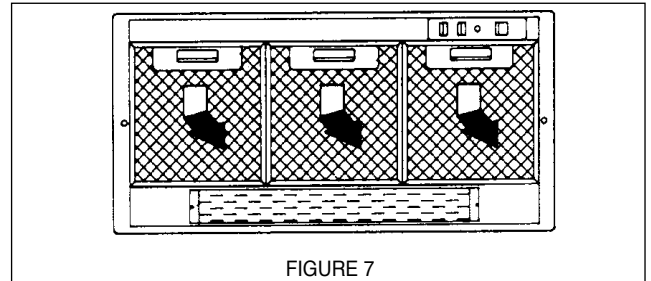

FIGURE 7
2. Remove the grease filters from the rangehood and set aside. The grease filters are removed by pressing the handle of the filter as indicated in FIGURE 7. When replacing, make sure that the filters are properly positioned with the handles in front and visible.